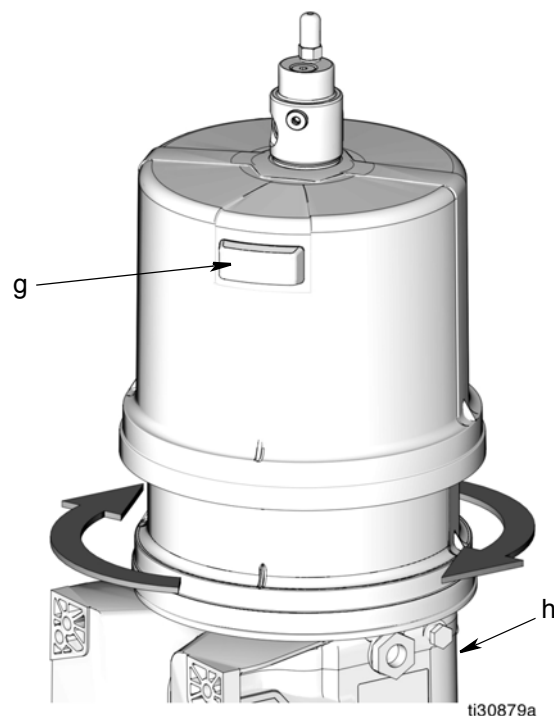

FIG. 7
5. Align the vent (g) in the reservoir toward the rear of the pump base (h). See FIG. 7 for correct orientation of these parts to ensure proper installation.
6. Position strap wrench over reservoir and use it to turn reservoir 2 full turns clockwise until the front of the reservoir aligns to the front of the pump base. (FIG. 7).